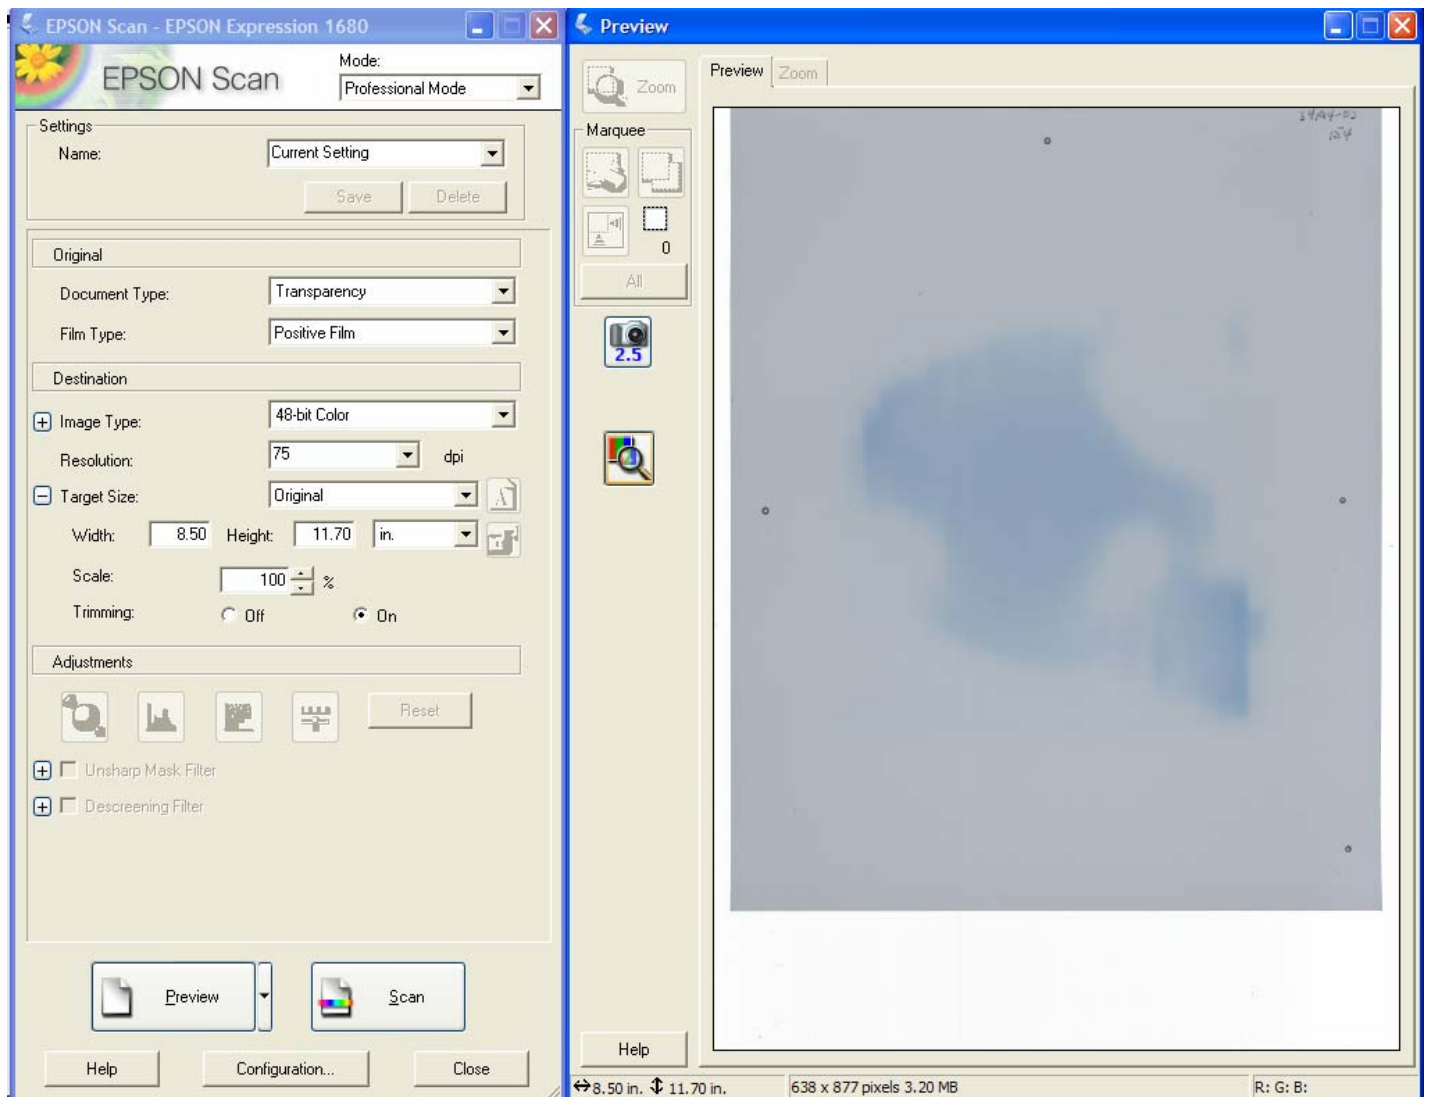

Figure 5
9. With an EBT film placed on the scanner at the top of the scan glass and centered left-to-right, make a “Preview” scan. The “Preview” window will open with the film image. If necessary adjust the position of the film left-to-right to center it and re-take the “Preview” image. In Figure 5 note that in the “Adjustments” area of the left hand window no buttons are activated. They were disabled by unchecking “Continuous auto exposure” and checking “No color correction” in Step 8. Color correction and auto-exposure are **undesirable** for dosimetry because they re-scale the scanner response for each image.